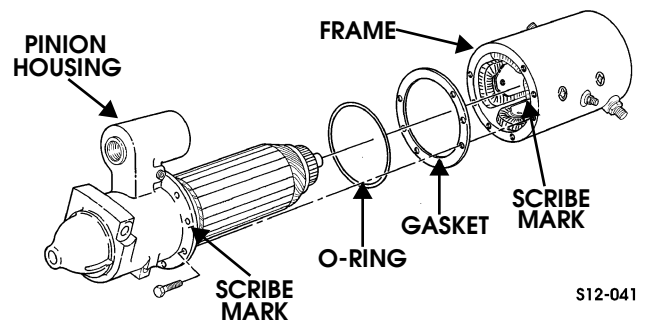

Figure 12-57: Frame Removal
10. Scribe alignment marks on pinion housing and frame (Figure 12-57).